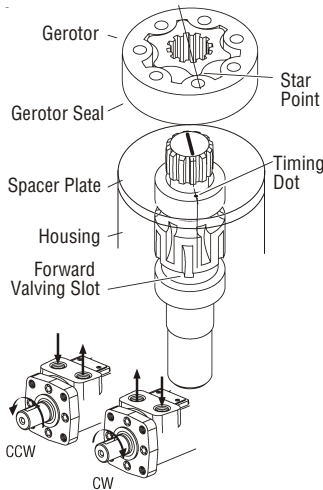

Figure 5-35, Standard Rotation
21. For standard rotation align any star point with the marked tooth on the drive. (Figure 5-35)